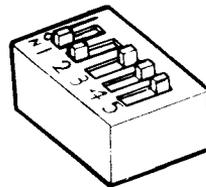

Fig. 2—Standard Switch Positions
1.08 The option switches on the logic circuit card are factory optioned and should not be changed unless the local engineering requirements specify incorporating a nonstandard option (Fig. 2).